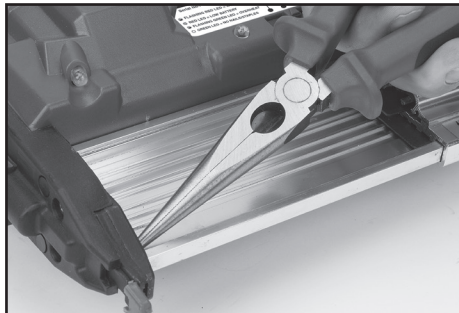

FIG.12
10.2 UNBLOCKING JAMMED FASTENERS – FIGS. 12 – 15